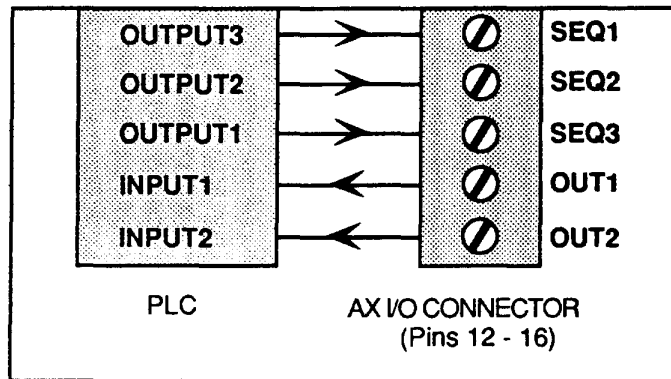

Figure 4-4. PLC Connections
Assuming your PLC accepts open-emitter outputs, connect the inputs and outputs as shown in Figure 4-4. If not, contact a Compumotor Applications Engineer at (800) 358-9070.